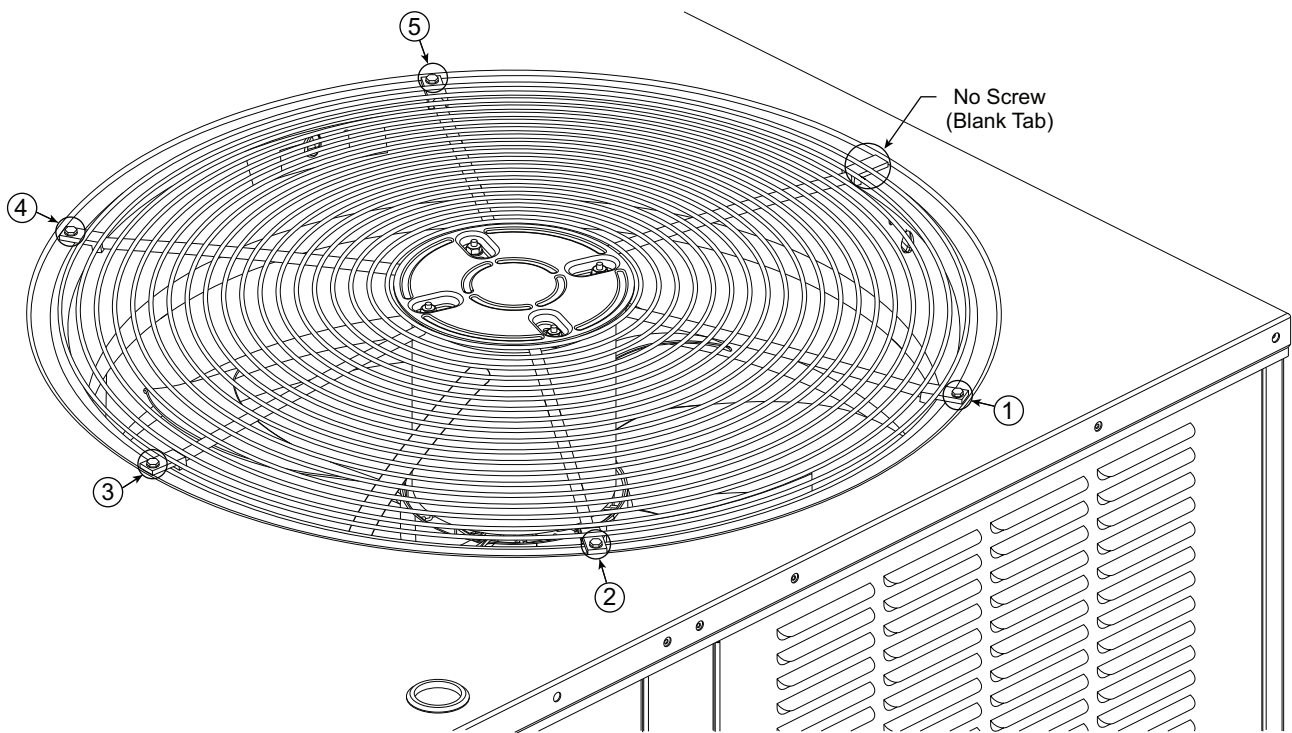

Fig. 33 — Condenser-Fan Assembly — Screw Pattern Sequence
6. Replace condenser-fan assembly. When replacing the condenser-fan assembly follow the screw pattern sequence shown in Fig. 33. The screws must be replaced in the sequence shown in the figure.